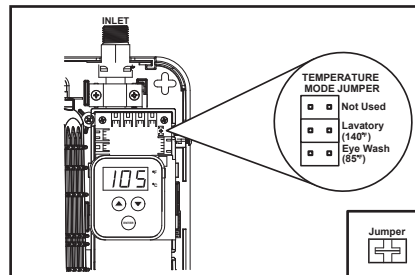

Figure 6 - Temperature mode jumper.
2. Locate and remove the jumper. Place the jumper on the pins corresponding to the desired mode. Test the operation of the water heater to ensure that it is operating as desired. See Figure 6.